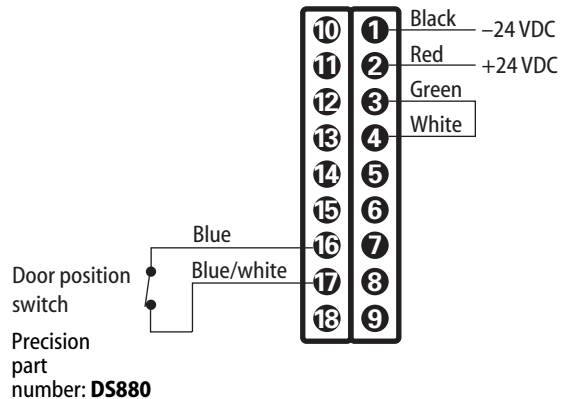

Figure 12 Connecting a door position switch
- 1 Connect the BLUE/WHITE and BLUE wires to a door position switch as shown in Figure 12.